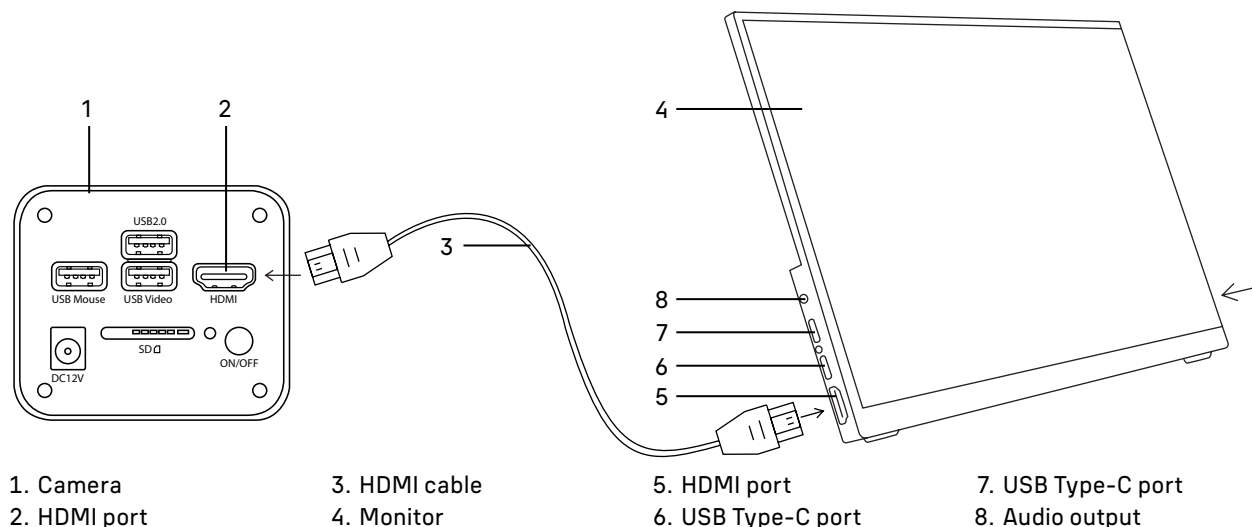

Fig. 15. Using the monitor
- Switch on the monitor by pressing the lower button on the side panel as indicated by the arrow (not shown in Figure 15).